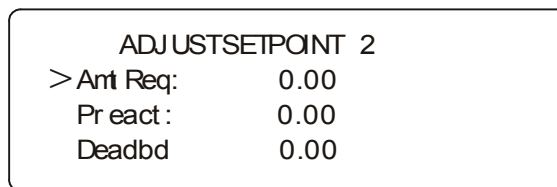

FIG. 3-13 ADJUST SETPOINT # MENU
Step 4. Press the Enter button. The Adjust Setpoint Menu for the set point number you selected appears. (See Fig. 3-13)